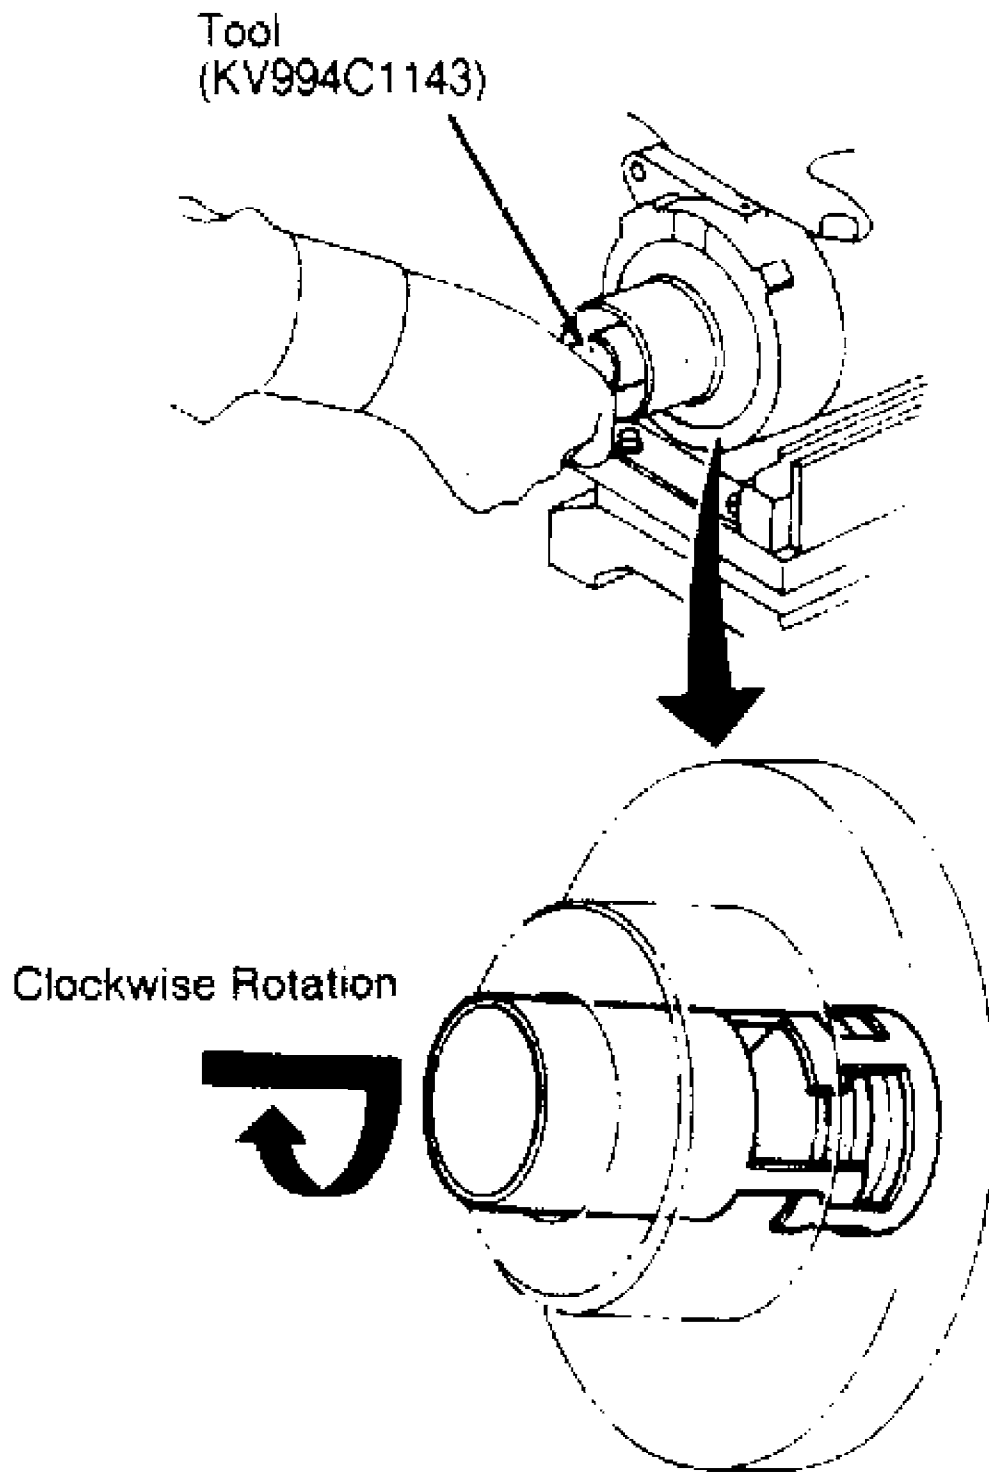

Fig. 9: Hitachi 6-Cylinder Compressor Shaft Seal Removal
4) Insert shaft seal Remove/Installer (KV994C1143) through the open end of front cover. Depress carbon seal and hook tool at case projection of shaft seal. Slowly pull out to remove shaft seal. See Fig. 9.